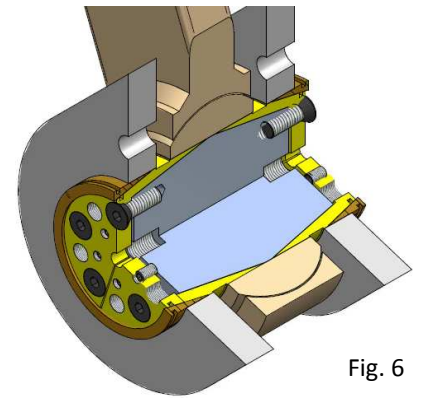

Fig. 6
5.1 Mount the outer cones/sleeves (16) (see Fig.6) on both sides and fit the locking plates (20).